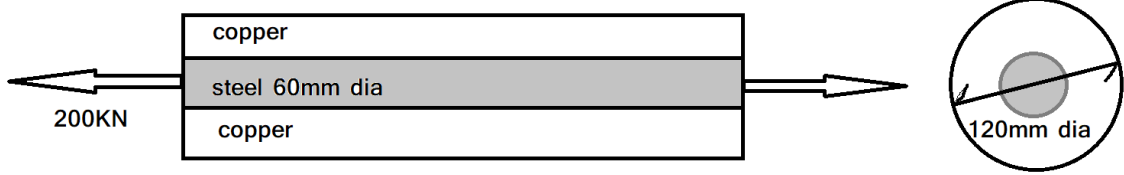

figure 2
- (c) As shown composite section in figure 2, determine stresses and load take by each material. Take  $E=220000\text{ N/mm}^2$  for steel and  $E=110000\text{ N/mm}^2$  for copper. **04**